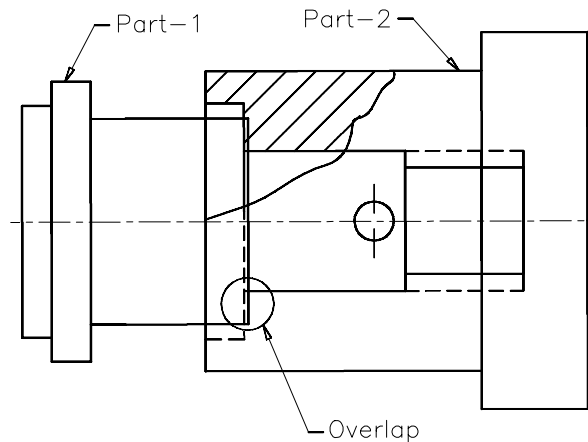

Figure 18-37 Assembly drawing after attaching Part-1 and Part-2
6. Xref the two drawings Part-1 and Part-2 so that the centers of the two drilled holes coincide. Notice the overlap as shown in Figure 18-37. Save the assembly drawing as ASSEM1.